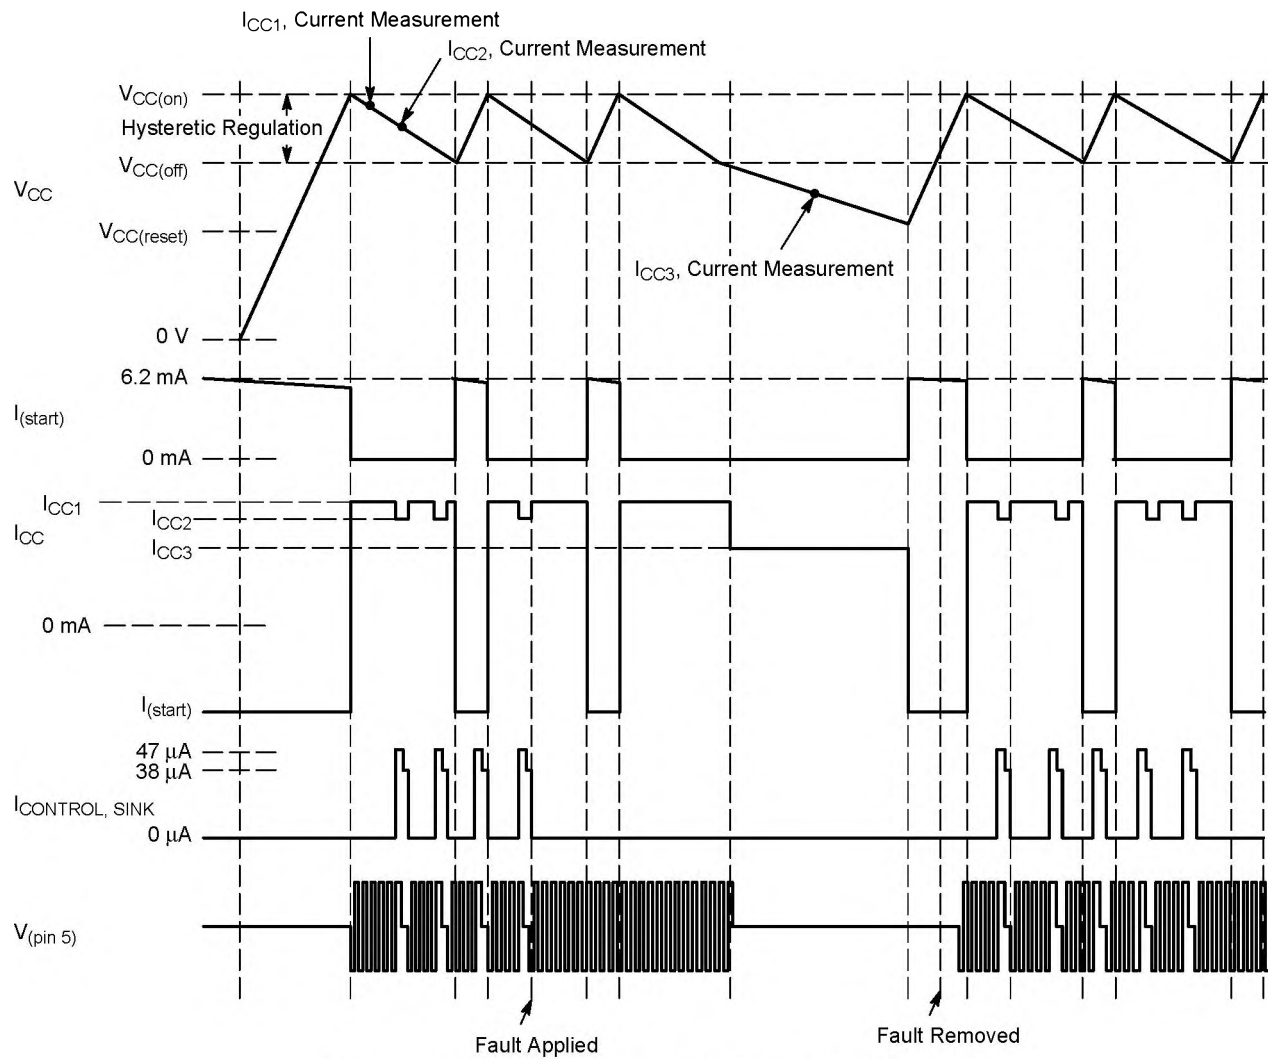

Figure 4. Non-Latching Fault Condition Timing Diagram
9. See Non-Latching Fault Condition Timing Diagram in Figure 4.